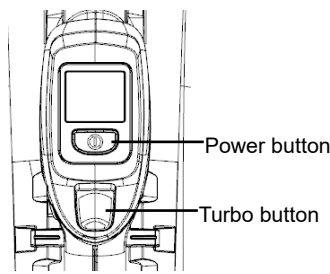

Fig 9
1. Press the power button “  ” on Multi Control Display Unit to light the screen (Fig 9).
- (1) Turn the cruise control lever clockwise to start the blower. The air speed will increase as the lever is rotated clockwise.
- (2) To decrease the air speed, turn the cruise control lever counterclockwise.
- (3) Keep turning the cruise control counterclockwise to the off position to stop the blower
4. The blower can provide maximum air speed when depressing the turbo button (Fig 9).